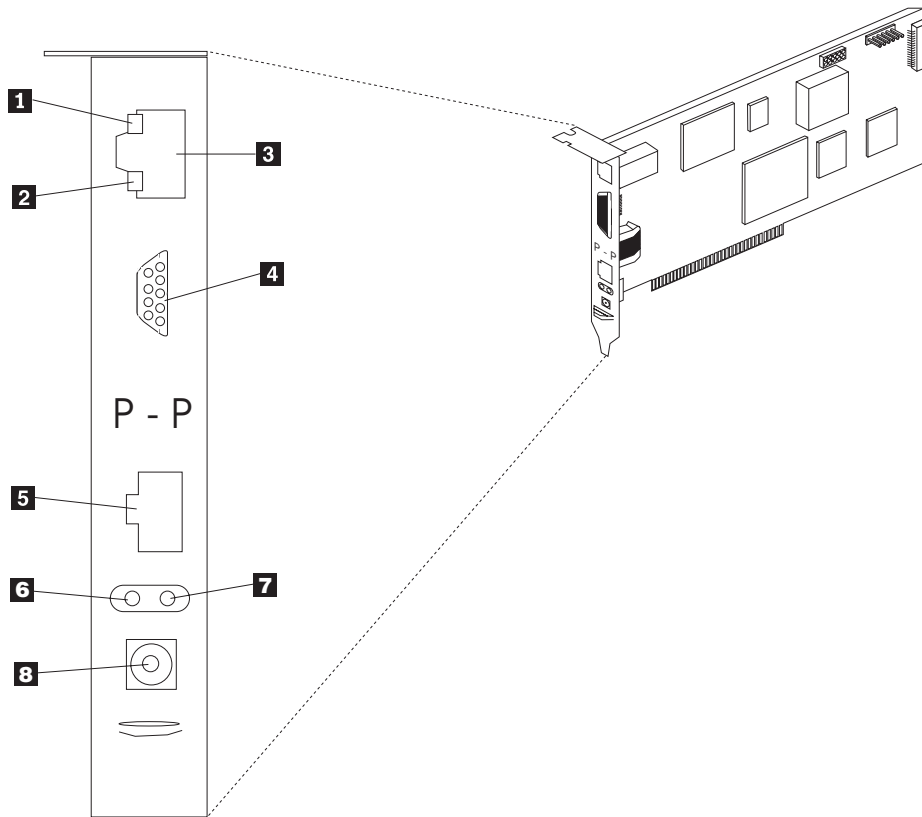

Figure 108. Ethernet LEDs and external ports on the Remote Supervisor Adapter
2. Check the Ethernet LEDs. The location of the LEDs is shown in Figure 108.